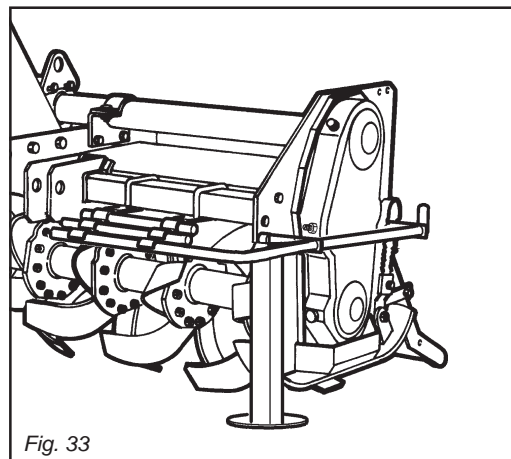

Fig. 33
- 1) *Position the support foot as shown in the figure 33.*
- 1) Placer le pied d'appui (voir figure 33).